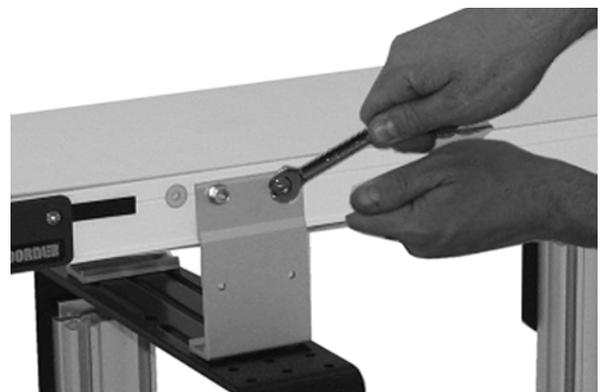

Figure 19
3. Hand tighten the screws to secure (Figure 19). Recommended torque is 150 in.lbs (17 Nm).